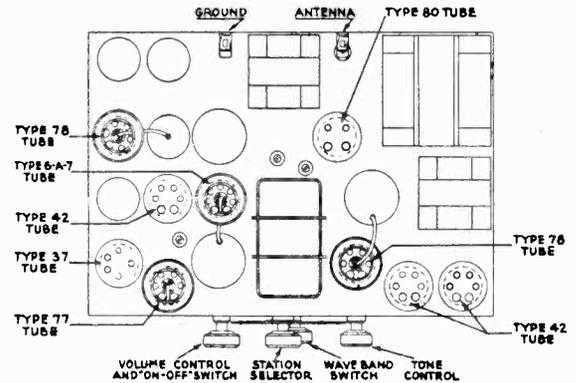

Fig. 1—Top View of Chassis
The intermediate frequency compensating condensers should be adjusted first. The intermediate frequency is 175 kilocycles. The location of these compensating condensers is: (a) 1st. I. F. PRIMARY—(23),—underneath the chassis. May be reached through hole in chassis sub-base to rear, left, of Tuning Condenser Assembly (6). See Figure 1. (b) 1st. I. F. SECONDARY—(24)—at rear of chassis, and accessible therefrom. Mounted near (56) and (58) electrolytic condensers. (c) 2nd. I. F. PRIMARY—(25),—at rear of chassis. Accessible from rear. Mounted next to (25). (d) 2nd. I. F. SECONDARY—(26),—underneath the chassis. Accessible through hole in sub-base, located between Type 42 (Driver) and Type 77 (1st. A. F.). See Figure 1.
Next, the "OSC.; H. F." (15), "DETECTOR" (11), and "ANT.; H. F." (5) compensating condensers should be adjusted in the order given. (15) and (11) are mounted upon the Tuning Condenser Assembly (6). (8) is located underneath the chassis, accessible through hole in sub-base at rear of Tuning Condenser Assembly (6),—between Tuning Condenser and Type 80 (Rectifier). See Figure 1. The signal generator is adjusted to a frequency of 1500 K. C. for (15), to 1400 K. C. for (11) and (8).